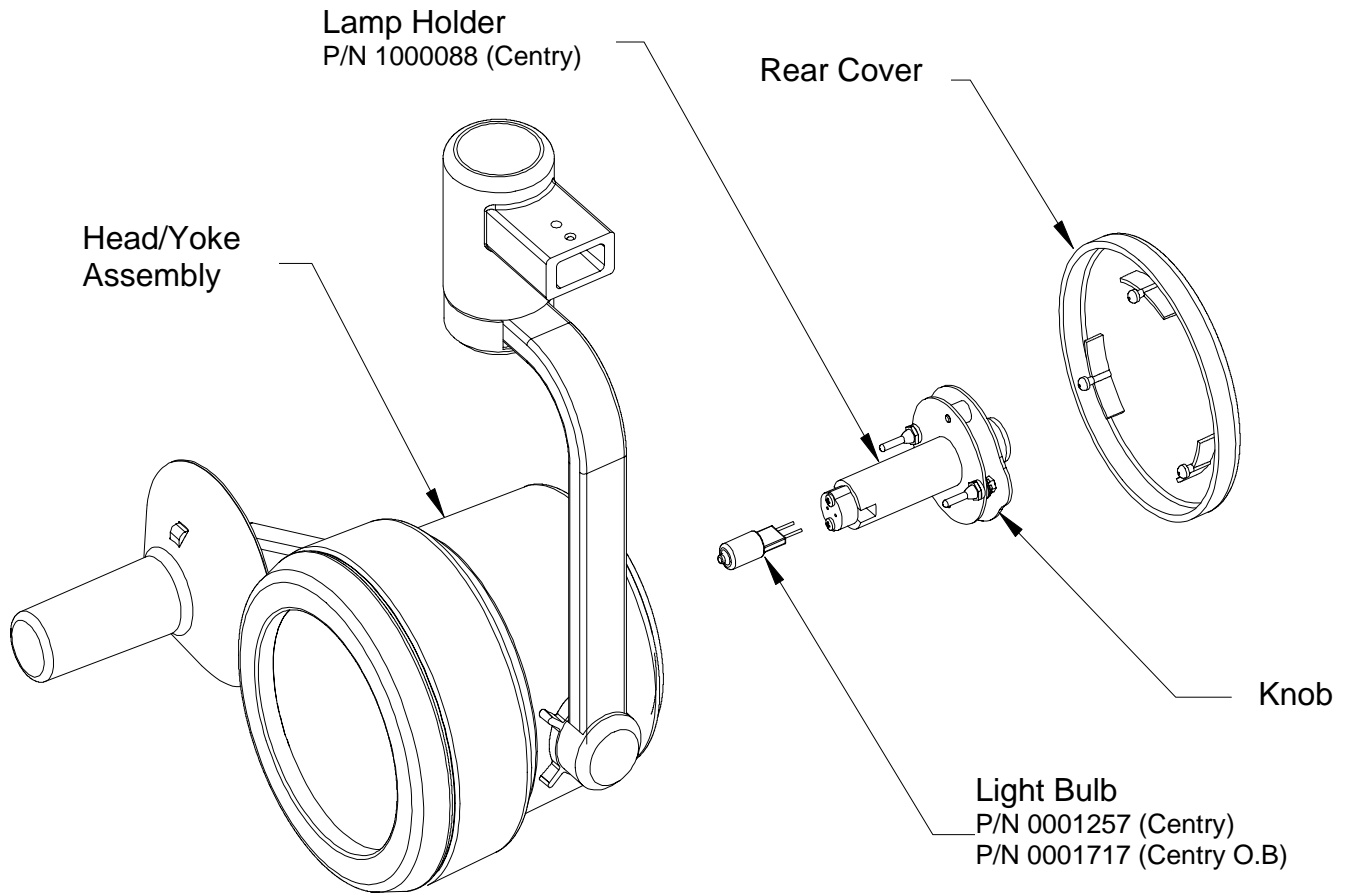

FIGURE 35: Centry Lamp Replacement
- Twist the rear cover counter clockwise approximately 7 degrees to unlock the rear cover and remove it from the head as shown in figure 35.